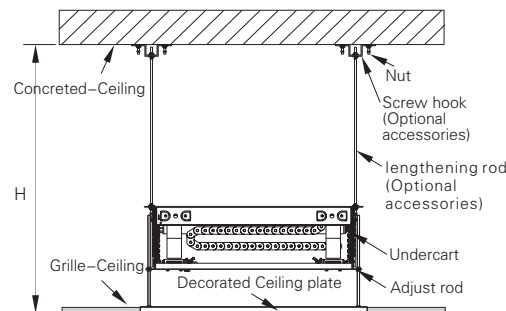

Figure 4 High Ceiling
B. If $H > H1$ (Supposed it's Maximum H2), need lengthening bar (Optional accessories) to install Check Figure 4.